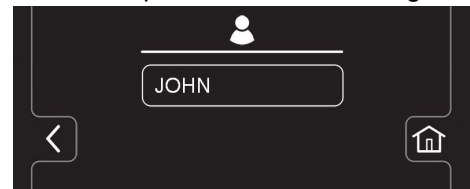

FIG. 146
7. The new user profile is now saved to the operator profile list as shown (Figure 146). Multiple Operator and Supervisor user profiles can be added. Press the back arrow to return to the previous screen to add more user profiles or to enable login.